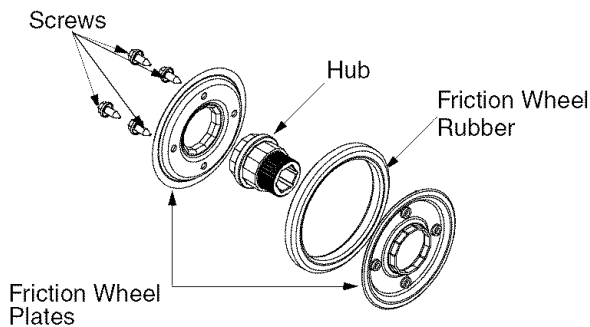

Figure 24
7. Remove the four screws from the friction wheel assembly. See Figure 24.
8. Remove the friction wheel rubber from between the friction wheel plates. See Figure 24.